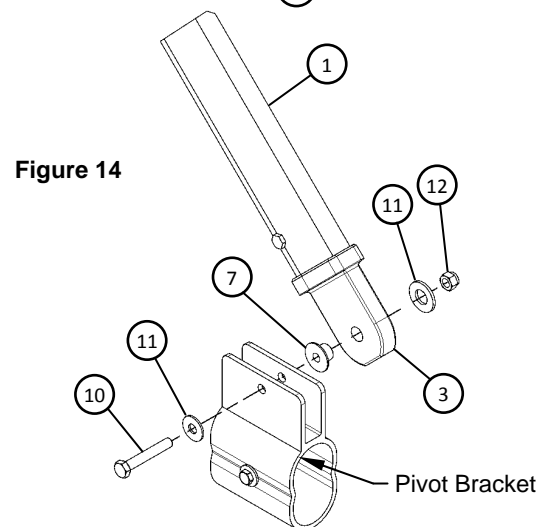

Figure 14
11) **See Figure 14.** Insert 5/16-18 x 2" hex bolt (9) with 5/16 flat washer (11) thru Arm End Pivot Casting (3), Bronze Bushing (7), and Pivot Bracket. Secure with 5/16 flat washer (11) and 5/16-18 Nylock hex nut (12). Repeat for second arm.